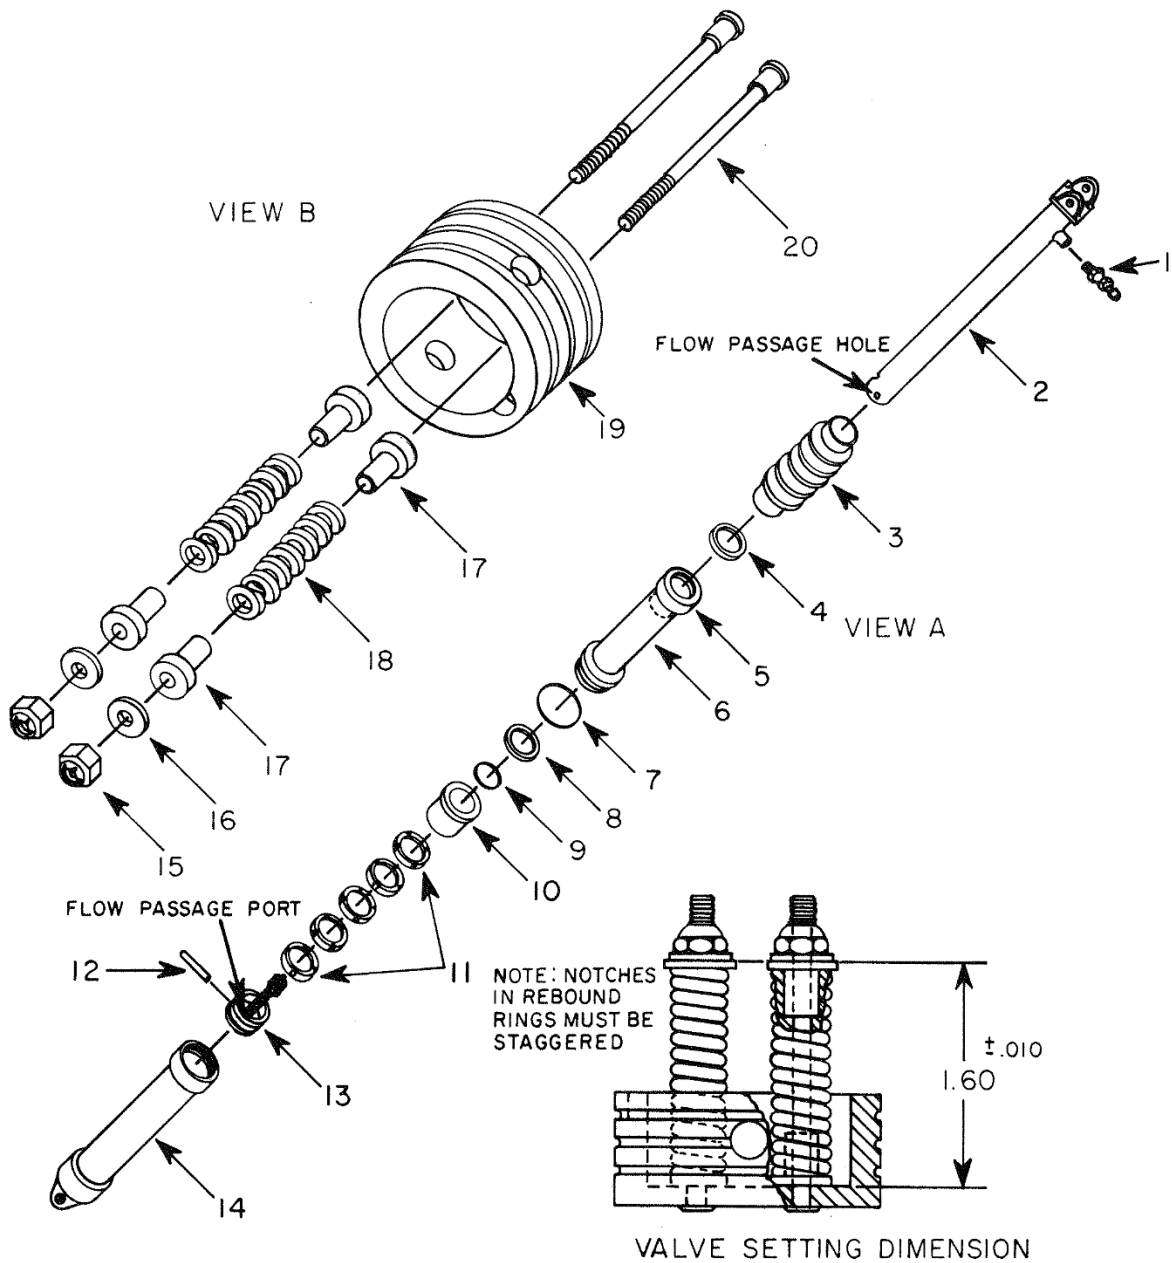

Figure 8-12. Oleo Strut Assembly
- (c) Remove bolts securing universal links (1) to oleo strut and remove links.
2. Oleo Strut Disassembly (See Figure 8-12)
- (a) Remove cap from valve (1) and slowly open valve to relieve pressure from oleo strut.
- (b) Remove valve (1) and pour hydraulic fluid from oleo into a pan.
- (c) Use a razor blade or knife to cut the paint line between the seal housing assembly (6) and the cylinder assembly (14) (Figure 8-12).
- (j) Disassemble valve assembly (13), if required, as follows: (Figure 8-12, View B)
- 1 Remove nuts (15) and washers (16).
- 2 Remove valve pistons (17) and valve springs (18) from shaft (20).
- 3 Carefully press shafts (20) from piston (19).
4. Oleo Strut Assembly (See Figure 8-12)
- (a) Assemble piston assembly (13), if required, as follows: (See Figure 8-12, View B)
- 1 Carefully press shafts (20) into the piston (19).
- 2 Install valve pistons (17) and springs (18) on the shafts.
- 3 Install washers (16) and nuts (15).
- 4 Adjust the valve and spring length to $1.60'' \pm .010''$. Measurement is taken from the inner base of the piston (19) to the outboard edge of the valve piston (17). See Figure 8-12, Valve Setting Dimension.